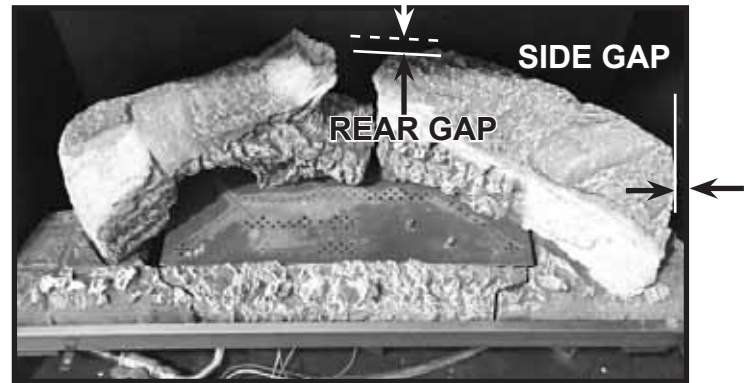

Figure 5. Install Right Rear Log
**SL-7 and SL-9 Models:** There will be about a 3/4 inch rear gap between the rear right log and the back wall of the firebox. There will be about a 1-1/2 inch side gap between the right end of the log and the right side of the firebox. See Figure 5.
**SL-5 Model:** There will be about a 1 inch rear gap between the rear right log and the back wall of the firebox. There will be about a 3/4 inch side gap between the right end of the log and the right side of the firebox. See Figure 5.